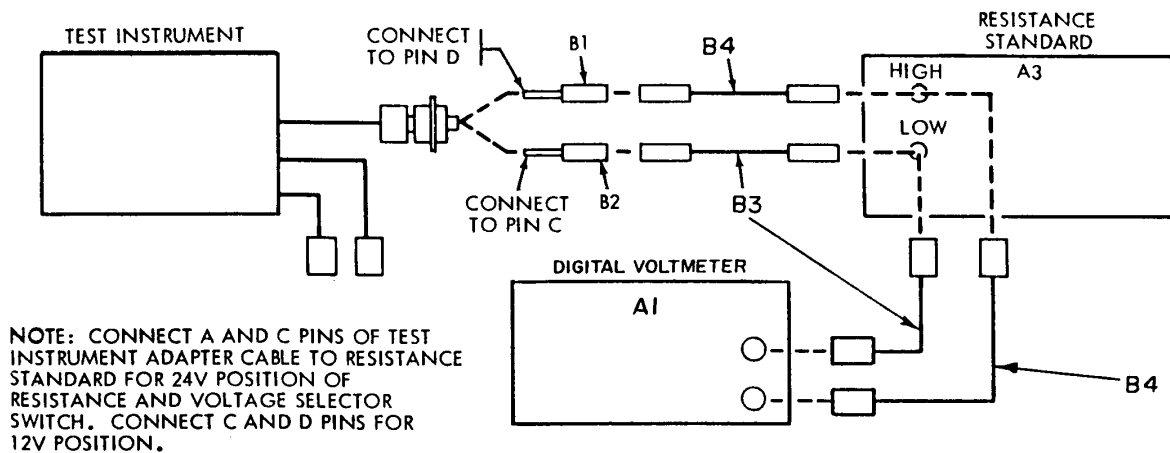

Figure 1. Voltage test - equipment setup.
(1) Connect equipment as shown in figure 1.
- (2) Set TI RESISTANCE and VOLTAGE selector switch to 12V.
- (3) Adjust resistance standard (A3) for 500.00 ohms.
- (4) Adjust COARSE rheostat for full- scale (red line) indication on TI voltmeter. If digital voltmeter (A1) does not indicate between 13.750 and 14.750 V, perform **b** below.
- (5) Repeat technique of (3) and (4) above for resistance and voltage selector switch positions listed in table 5. Digital voltmeter will indicate within limits specified.
- (6) Set TI RESISTANCE and VOLTAGE selector switch to OFF.